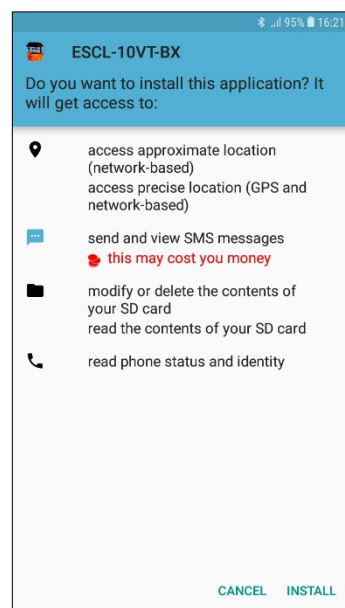

Fig 2-1: Installation
- Go to copied location in tap on ESCL-10VT-BX.apk. Then tap on install refer fig 2.1 and 2.2.